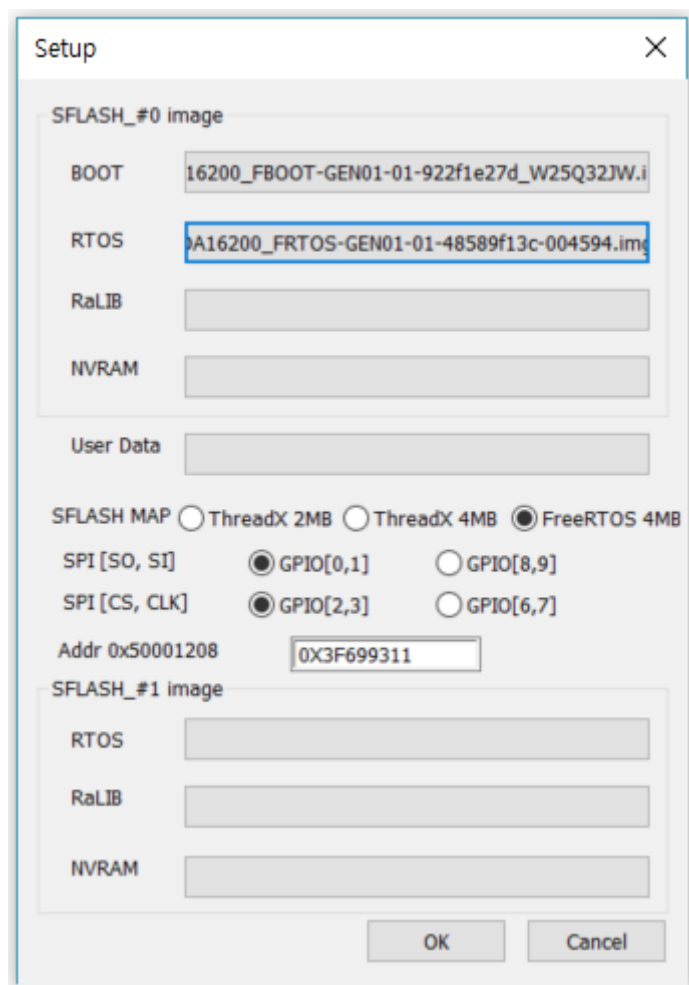

Figure 7: Setup and Select Image
- Figure 7 shows the Setup window to select image files to download
3. After the file is selected, click **OK** to apply the changes. See Figure 7.